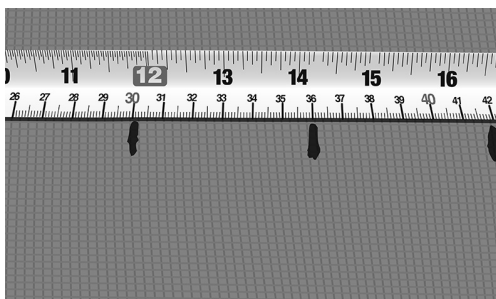

Fig. 3 Mark the CC distance on the wall or floor
3. Mark the calculated CC distance on the wall, on the reinforcement or otherwise (Fig. 3).